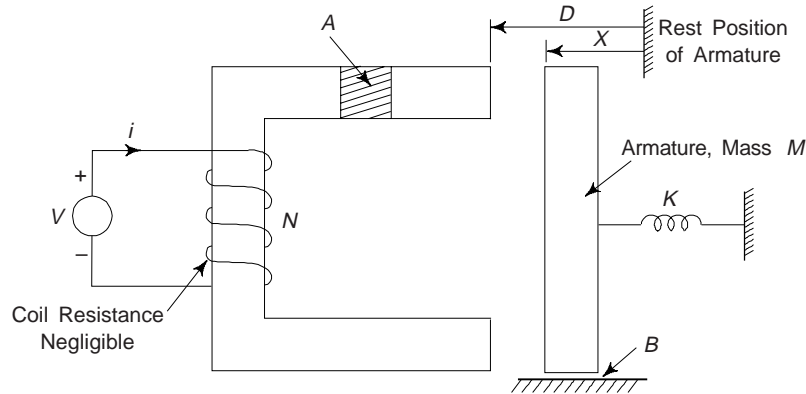

Fig. P4.14
4.14 For the electromechanical system shown in Fig. P4.14, the air-gap flux density under steady operating conditions is